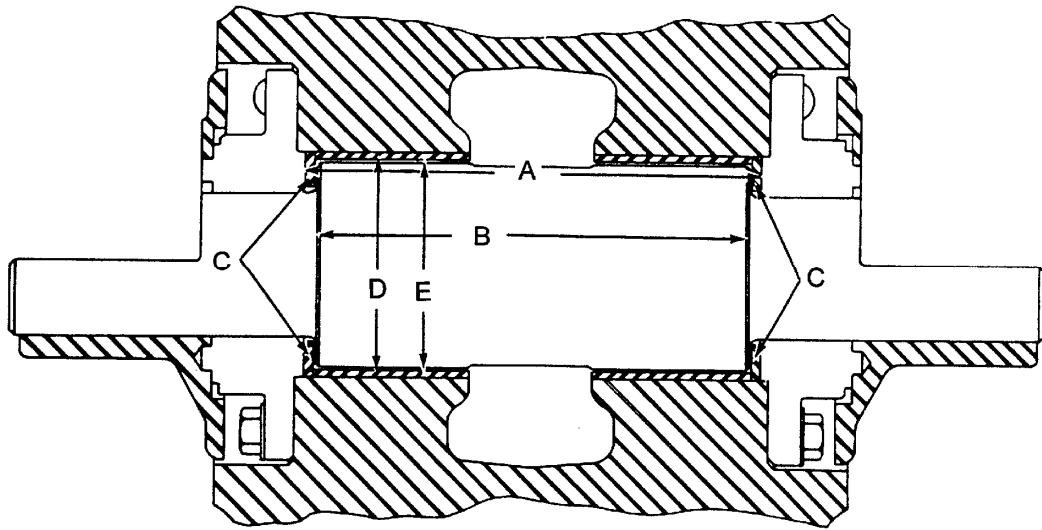
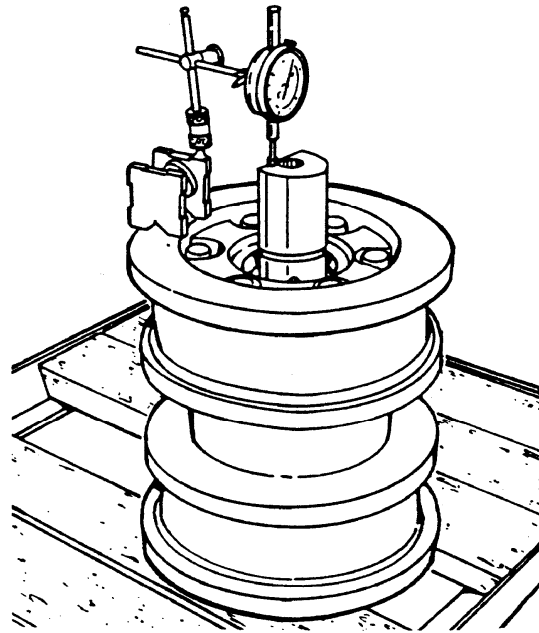
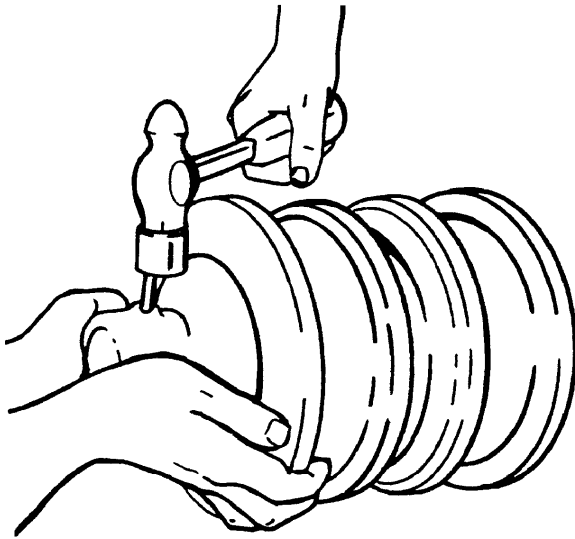

Fig. 14.24. Track Roller Bushing Clearance
Fig. 14.27. Roller end Clearance
Fig. 14.28. Installing Spring Pin
4. Determine if the thrust washers are worn beyond the limits given in Fig. 14.24. If worn, replace with new.
5. Check the end clearance and diametral clearance given in Fig. 14.24.
4. Insert the shaft (10) into the roller body so the end of the shaft with drain plug (12) is on the same side as the two drilled holes in the roller body. Install the washer, sealing ring and bushing retainer on the opposite side of the roller housing as was done previously.
5. Check that track roller end clearance is within tolerance given in Fig. 14.24. From side of roller dial indicator is to be mounted to, push roller shaft into housing to be sure it is bottomed against washer. Place dial indicator magnetic base on roller housing with indicator pointer resting against end of shaft. Set indicator at zero (Fig. 14.27). Pull up on shaft until it bottoms and take a reading. If reading obtained is below specification, check surfaces (A, B and C, Fig. 14.24) for squareness. If above specifications, check parts for excessive wear.
6. Install the seal kit (3) as described in the instructions furnished with the seal kit.
7. Install the O-ring (2) into the groove on the inside of the roller shaft bracket (1) and lubricate the O-ring with chassis lubricant.
8. Install roller bracket (1) on shaft (10). Apply hand pressure to roller shaft bracket (1) as shown in Fig. 14.28 until spring pin holes are aligned. Install pin (11) until it is slightly below bracket surface and peen over bracket casting to maintain its position. Repeat on opposite side of roller.